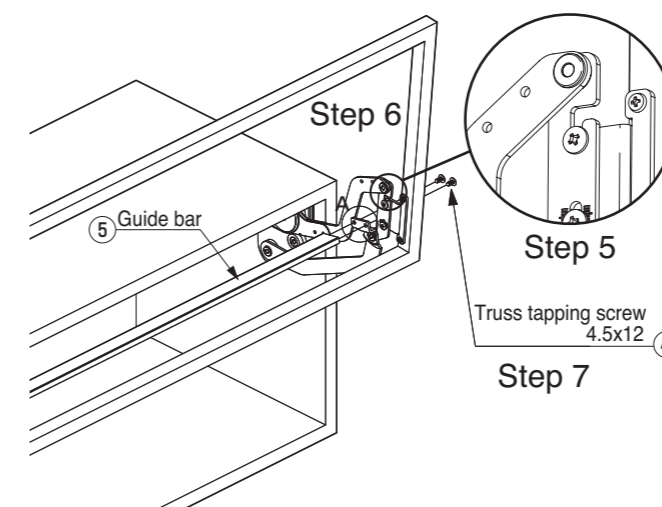

Fig. 8. Installation of 20mm width aluminum frame door
- Step 5. Insert the bind screw ⑦ (or ⑪) temporarily fastened to the mounting plate SLUH-SZ (or SLUH-AZ) into the notch of the unit mounting plate of the EZ-SLU side body. (Fig. 8)
- After inserted, adjust installing angle position so that the screw of the other side can be fixed. (Fig. 8)
- Step 6. After putting in the door, fasten it inserting the bind screws M5x10 ⑦ (or ⑪) for both sides into the lower threaded hole of the mounting plate SLUH-SZ (or SLUH-AZ) through the oblong hole of the unit mounting plate. (Fig. 8)
- Step 7. Fix the guide bar ⑤ to the part A of the arm mechanism securely with the attached truss tapping screw 4.5x12 ④. (Fig. 8)